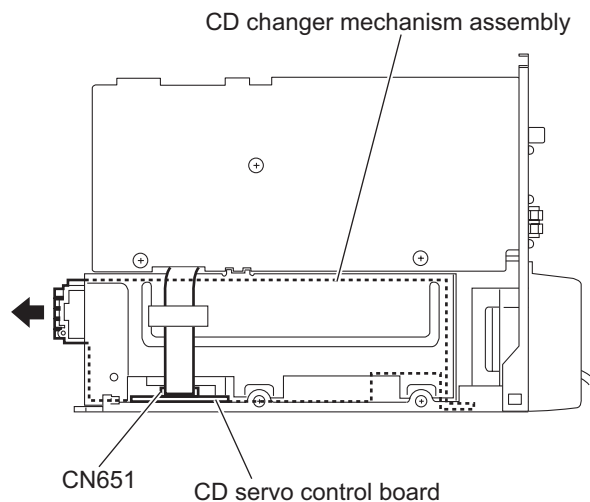

Fig.16
3.1.11 Removing the CD changer mechanism assembly (See Figs.16 to 19.)
- (1) From the right side of the main body, disconnect the card wire from the connector **CN651** on the CD servo control board. (See Fig.16.)
- (5) Take out the CD changer mechanism assembly in the direction of the arrow. (See Fig.16.)
When take out the CD changer mechanism assembly, be careful not to damage the several parts on the CD servo control board. (See Fig.16.)